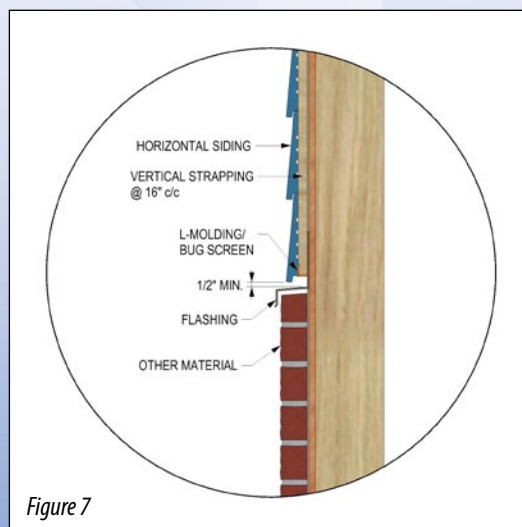

Figure 7
2.5 A clearance (capillary break) of 1/2" must be created between the wood siding and the stone ledger. Proper ventilation with bug screen or vented trim must be created to create air flow and water drainage. The wood siding must not contact masonry. (fig.7)